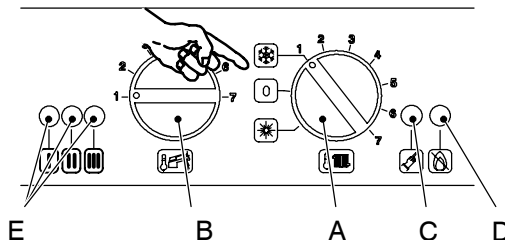

Fig. 9.8
- 1 Turn the boiler ON positioning the function selector knob A as indicated in Fig. 9.8.